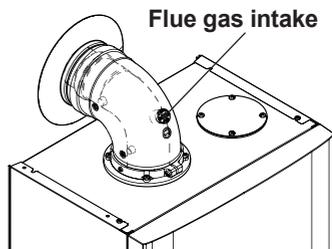

Figure 7.1
- Connect a flue analyser to the flue gas analysis outlets on the flue gas exhaust on the boiler Figure 7.1.